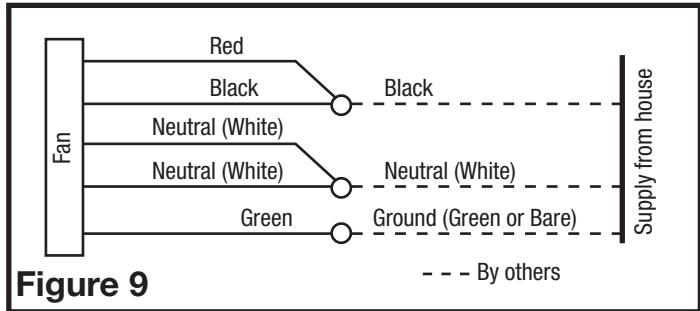

Figure 9
- 2a. From where you have access to inside the fan's junction box, connect the one white wire from the house to both the white wire from the fan's light receptacle and the white wire from the fan's exhaust receptacle. Connect the black wire from the wall switch to both the black wire from the fan's light receptacle and the black wire from the fan's exhaust receptacle. Connect the ground wire from the house to the green wire from the fan's receptacle (**Figure 9**). Use approved methods for all connections.